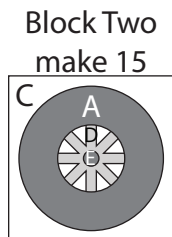
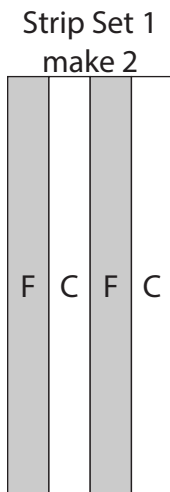

Fig. 6
Fig. 7
6. Refer to Figure 6 to center and press (1) Fabric D Rim, (1) Fabric A Tire and (1) Fabric E Rim Center onto (1) 8 1/2" Fabric C square.
7. Finish the raw edges of each shape with a decorative stitch such as a buttonhole or satin stitch to make (1) 8 1/2" Block Two square (Fig. 6).
8. Repeat Steps 6-7 to make (15) Block Two squares total.
9. Sew together (2) 2 1/2" x WOF Fabric F strips and (2) 2 1/2" x WOF Fabric C strips, lengthwise and alternating them from left to right, to make (1) Strip Set 1 (Fig. 7). Repeat to make a second Strip Set 1.